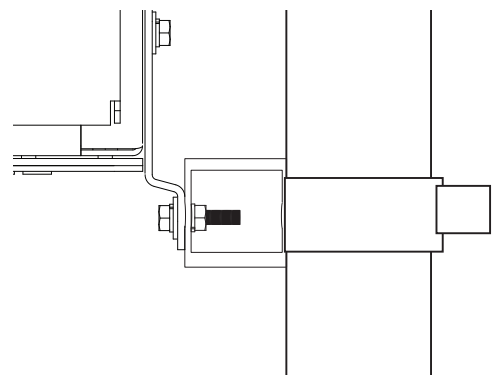

Fig. 2-5, FBE2322-AEE H-Frame Mounting Hardware Detail.
3. Loosely attach the enclosure to the structural slotted channel using (4) 7/16"-14 x 1" (M12 x 25) hex head stainless steel bolts, (8) 7/16" (M12) lock washers, (4) 7/16" stainless steel flat washers, and (4) 7/16"-14 (M12) hex nuts (see Fig. 2-5).